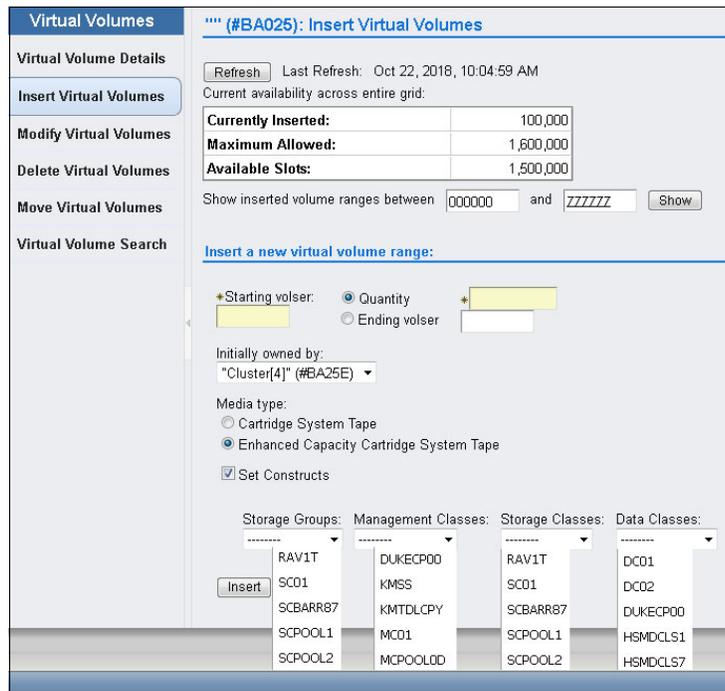

Figure B-4 Insert logical volumes by assigning static construct names
2. Insert your logical volumes into groups through the TS7700 MI, as described in 9.5.3, “TS7700 definitions” on page 552. You can assign the required static construct names during the insertion as shown at the bottom part of the window in Figure B-4.
3. On the left side of the MI, click **Virtual** → **Virtual Volumes** → **Insert Virtual Volumes**. The window that is shown in Figure B-4 opens. Use the window to insert virtual volumes. Select the **Set Constructs** option and enter the construct names.